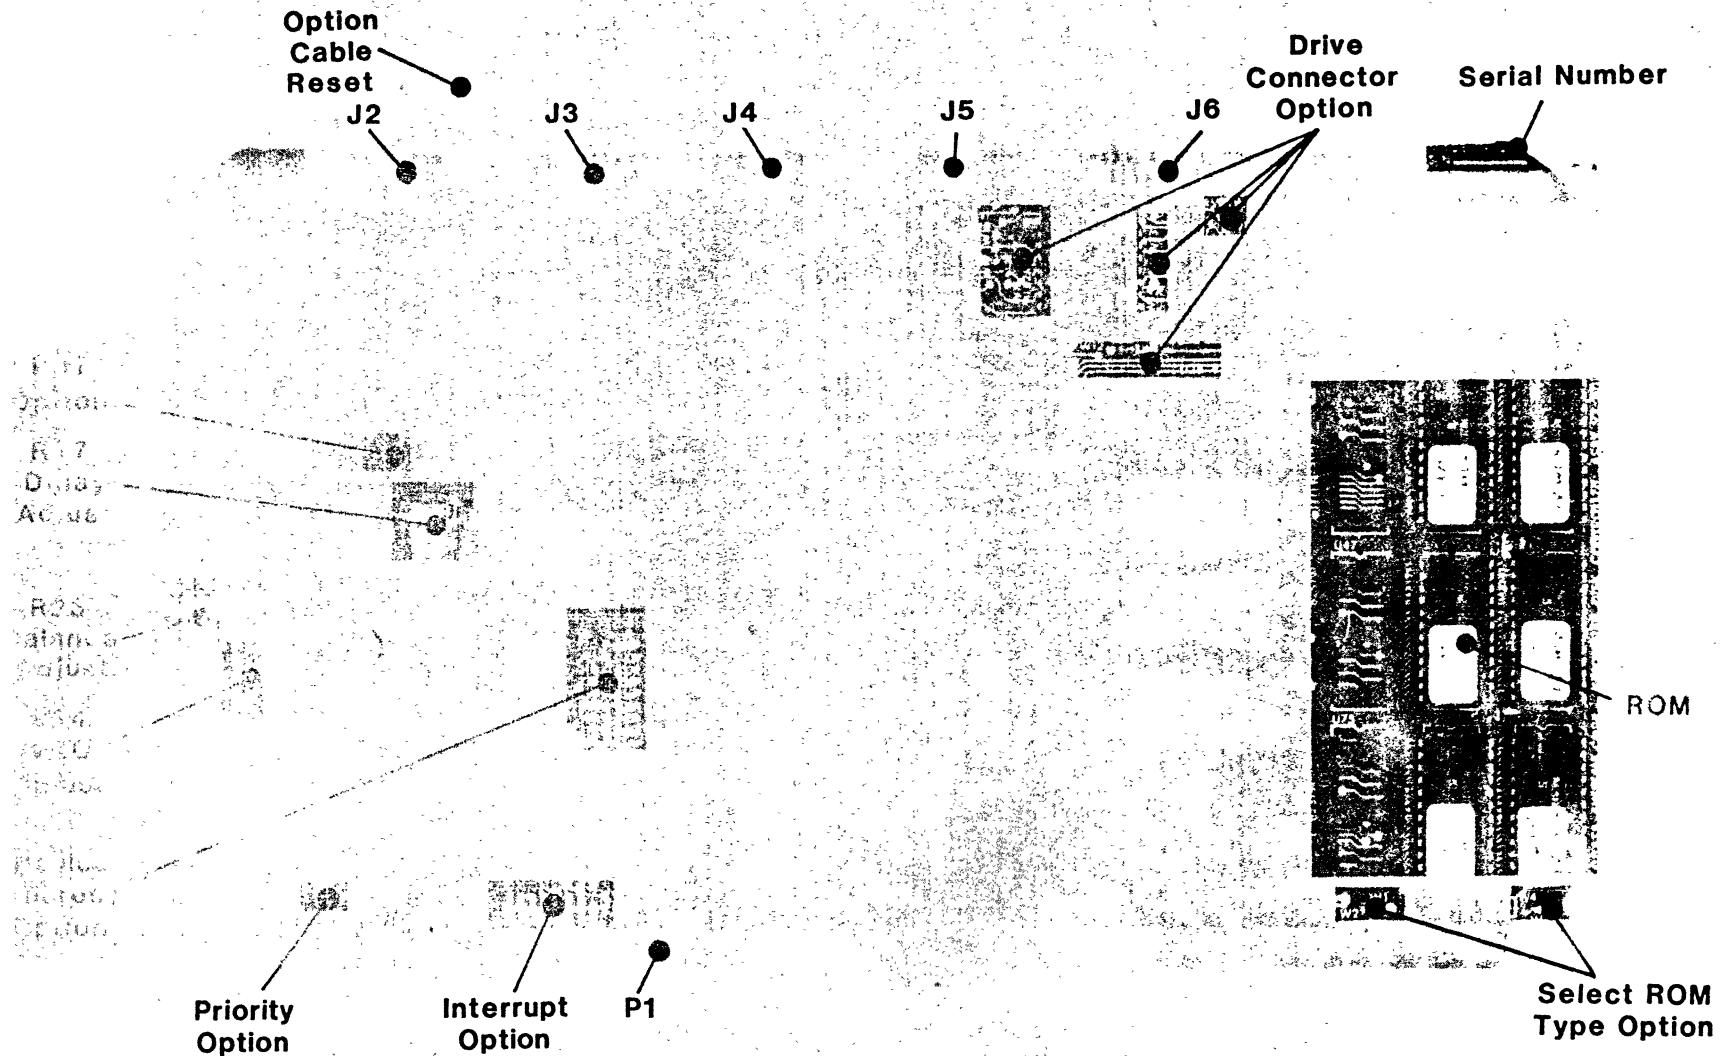

Figure 2-1 — Winchester Disk Controller — 92-1011-xx
2.01 The Winchester Disk Controller (WDC) 92-1011-xx is an integrated system component incorporating all the necessary component parts to provide the Mainframe with a single PCA Controller. Figure 2-1 illustrates the WDC. The PCA contains:
- 2.04** Several alternate features can be configured through option jumpers on the PCA. Refer to Figure 2-1.
Refer to Figure 2-1 for the locations of these adjustments.